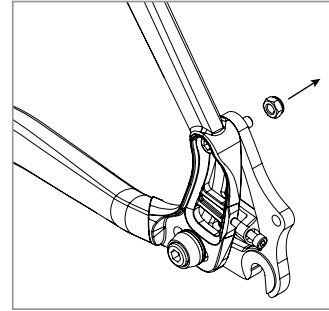

Figure 4
1. Remove the nut used for shipping from the non-driveside upper pivot bolt. Set it aside as a spare to the driveside nut (FIG 4).